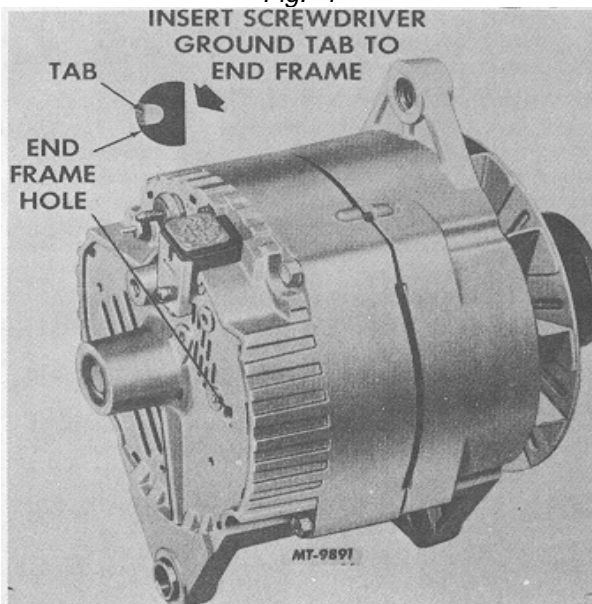

Fig. 5
- g. If ampere output is not within 10 percent of rated output as stamped on integral charging system frame, ground the field winding by inserting a screwdriver into the test hole, Fig. 5. **NOTE :** Tab is within 3/4 inch of casting surface. Do not force screwdriver deeper than one inch into end frame.